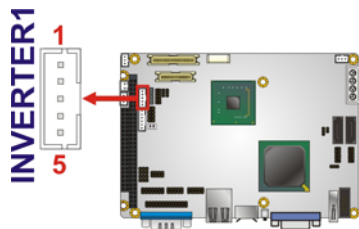

Figure 3-5: Backlight Inverter Connector Location
- CN Location:** See Figure 3-5